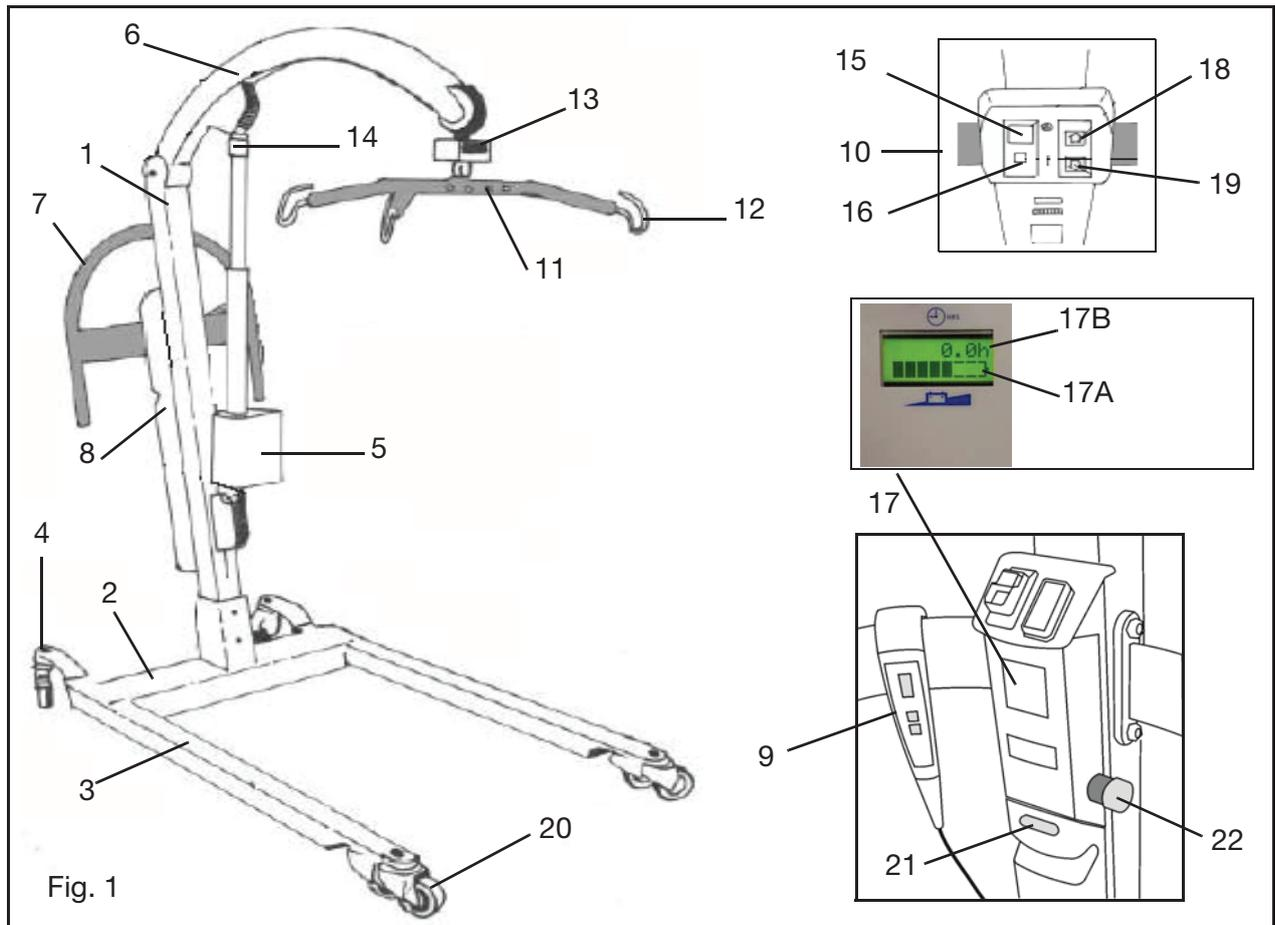

Fig. 1
**Dual control switch:** The raising / lowering of the jib can also be controlled from this switch, situated on the top of the electronics / battery compartment on the mast. Arrows on the switch are for function identification (See inset to Fig. 1). This switch will function, even if the handset cable has been unplugged.
**Emergency Stop Button (red):** If, in an emergency, you have to immediately stop any powered movement (other than by releasing pressure on the button on the handset) press the emergency stop button situated on the right hand side of the electronics / battery compartment on the mast (Fig. 1). Once the Emergency Stop button has been operated, it must be reset by turning the red cap until it pops out. Now the *Tenor* can be operated again.
**Power on / Reset button (green):** Located on the top control panel (Fig. 1). Press this button to turn on power to the *Tenor*. Also used to reset if the automatic overload fuse has operated (indicated by the button projecting outwards slightly). If the fuse has operated and, once reset, operates again, withdraw the lifter from use and contact Arjo or their appointed distributor.
**Power off button (red):** Located on the top control panel (Fig. 1). Press this button to turn off power to the *Tenor*.
**System failure lower override:** In case of control handset / dual switch malfunctioning, with a resident still supported by the sling, the lowering process can be continued using the system failure lower override, situated on the lift actuator tube (See Figs. 1 & 3).
**Battery discharge indicator:** There is a small battery symbol on the bottom of the LCD. The battery symbol shows the level of battery charge. (See Fig. 1 and also the ‘Battery Charging’ section for complete description).
**Hour/Cycle Meter:** On the top of the LCD display it shows the total duration of the lift and lowering operation (in hours - see item 17B, Fig. 1). The LCD can also show the number of cycles by simultaneously pressing the “raise” and “lower” button. This is primarily intended to help the caregiver calculate maintenance intervals.
When the battery pack is fully charged, disconnect the mains power, then remove the pack from the charger and insert it fully into the *Tenor* battery position, located at the rear of the mast (See Fig. 1). Electrical connection is made automatically.